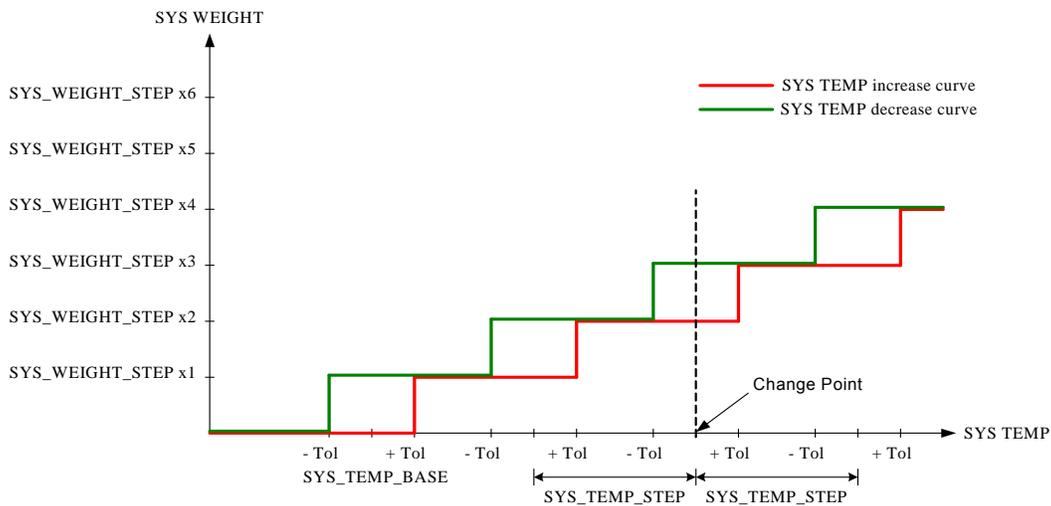

Figure 8-21 SYS TEMP and Weight Value Relations
**Figure 8-21 SYS TEMP and Weight Value Relations** shows the relation between the SYSTIN temperature and the weight value. Tolerance setup is offered on each change point to avoid weight value fluctuation resulted from SYSTIN temperature change. The weight value will increase by one weight value step only when the SYSTIN temperature is higher than the point value plus tolerance. Likewise, the weight value decreases by one weight value step only when the SYSTIN temperature is lower than the point value minus tolerance.